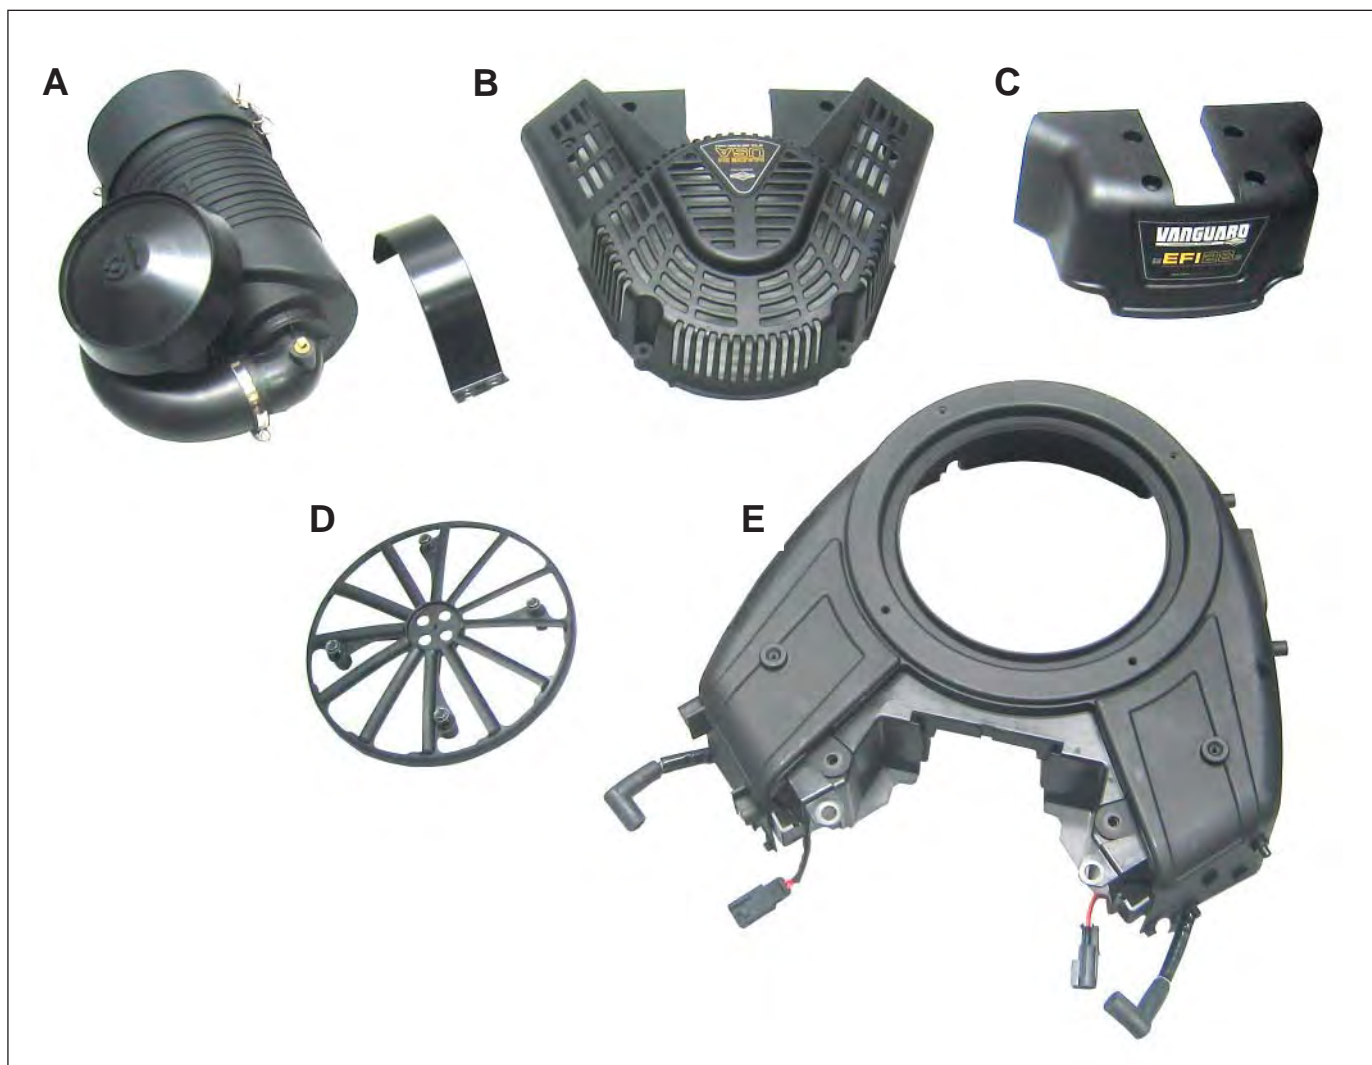

Figure 5-2 Remove Air Cleaner, Static Guard, Decorative Cover, Fan Guard, and Blower Housing
1. See Figure 5-2. Remove air cleaner (A) as follows:
2. Remove six hex flange screws to release static guard (B).
3. Remove four hex flange screws to release decorative cover (C) from upper air cleaner bracket.
4. Remove four hex flange screws to release fan guard (D) from blower housing.
5. Remove two hex flange screws to release blower housing (E) from upper air cleaner bracket.
3. Place blower housing (E) into position on engine aligning slots with six alignment screws.
14. Install four hex flange screws to fasten fan guard (D) to blower housing. Alternately tighten screws to 40-48 in-lbs (5 Nm) using a crosswise pattern.
15. Install four hex flange screws to fasten decorative cover (C) to upper air cleaner bracket. Alternately tighten screws to 50-70 in-lbs (6-8 Nm) using a crosswise pattern.
16. See Figure 5-2. Install six hex flange screws to fasten static guard (B) to blower housing. Alternately tighten screws to 25-35 in-lbs (3-4 Nm) using a crosswise pattern.
17. Install air cleaner (A) as follows: